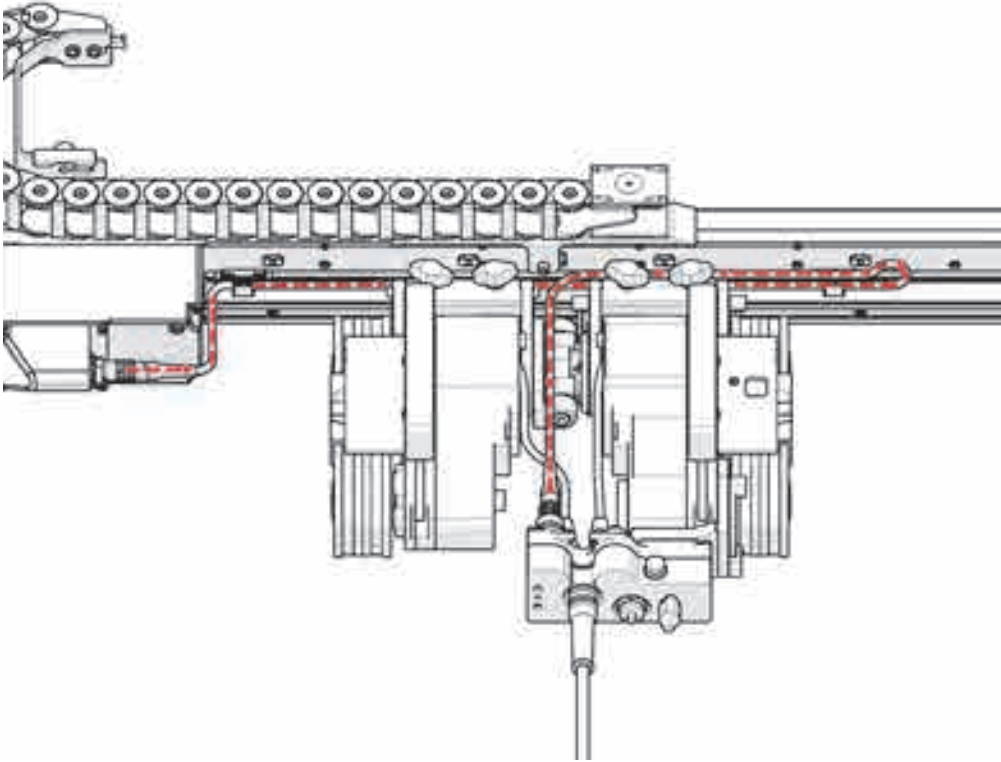

Figure 4-46 Raster arm cable routing
1. Plug the supplied raster arm cable into the raster arm's connector (see Figure 4-46 on page 130) located on the raster arm encoder housing.